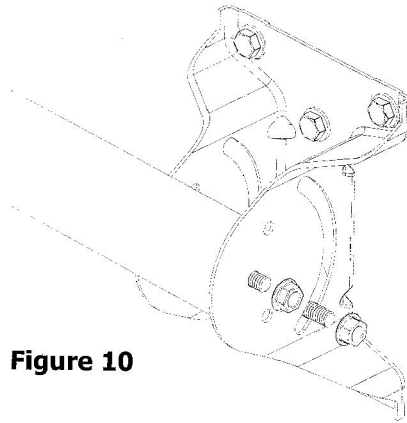

Figure 10
Step 2: To attach the Mount Tube to the Mount Bracket, align the bottom hole at the base of the Mount Tube to the arched slot at the bottom of the Mount Bracket right side flange. Insert a 5/16" X 3/4" UNC Carriage Bolt through the right flange and wall of the Mount Tube. Secure the Carriage Bolt using a 5/16" UNC Serrated Flange Nut inside the Mount Tube. Repeat this procedure to attach the Mount Bracket left flange to the bottom hole at the base of the Mount Tube. Next, swing the Mount Tube up to align the top hole at the base of the Mount Tube with the center hole in the side flange of the Mount Bracket. Pass a 5/16" X 2 1/2" UNC Hex Head Tap Bolt through the hole in the right side flange, the Mount Tube, and the left side flange & secure using a 5/16" UNC Serrated Flange Nut (**fig 10**).